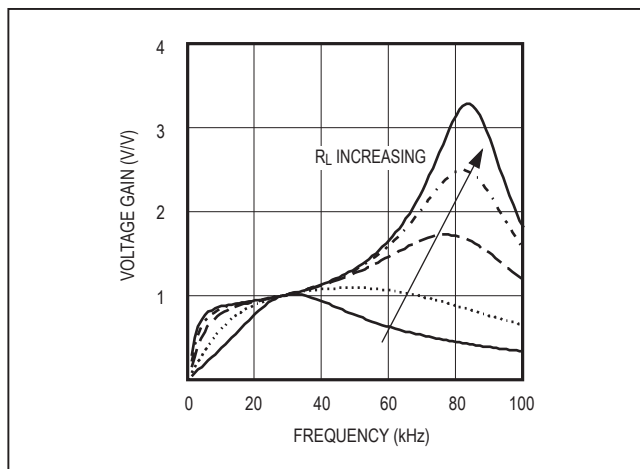

Figure 8. Frequency Response of the Resonant Tank
Figure 8 shows the frequency response of the resonant tank's voltage gain under different load conditions. The primary series capacitor is 1 μ F, the secondary parallel capacitor is 15pF, the transformer turns ratio is 1:78, and the secondary leakage inductance is 260mH. Notice that there are two peaks, f_S and f_P , in the frequency response. The first peak, f_S , is the series resonant peak determined by the secondary leakage inductance (L) and the series capacitor reflected to the secondary ($C'S$):